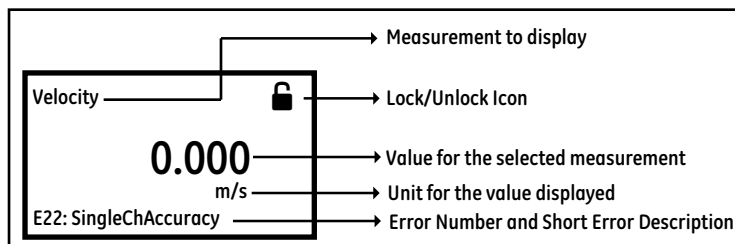

Figure 33: Measurement View
After power up, if the meter's *Measurement View* (Refer Figure 33) shows a lock icon  on the top right of the display, use the following steps to unlock the meter from keypad lockout mode.
- Finally, the *Measurement View* (Refer Figure 33)
This screen (Refer Figure 33) will be referred to as "*Measurement View*" throughout this chapter. User can choose the measurement to be displayed in this view from a list of options. The Error indicator at the bottom left of the display will be blank if the meter has no error.